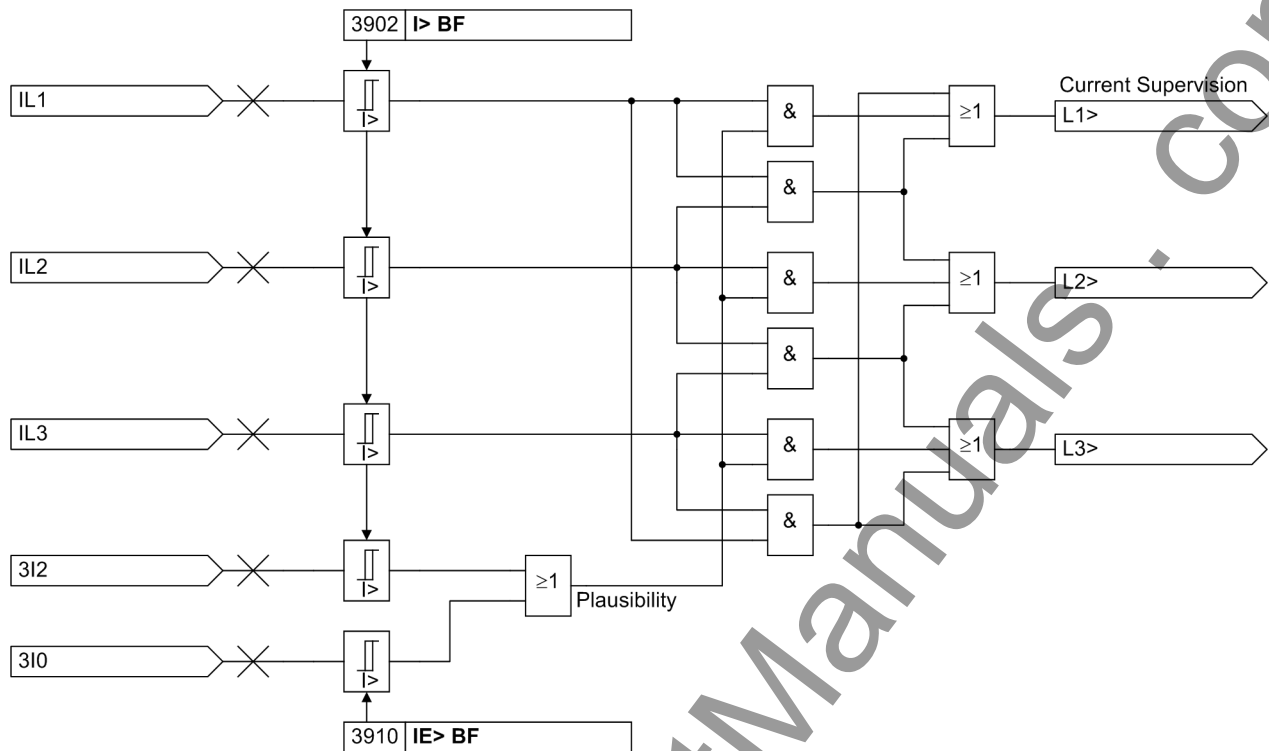
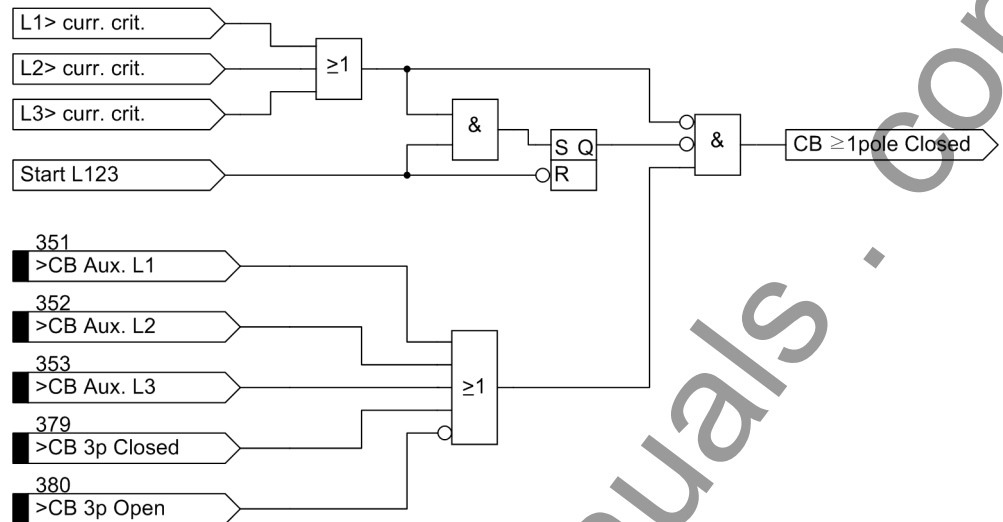
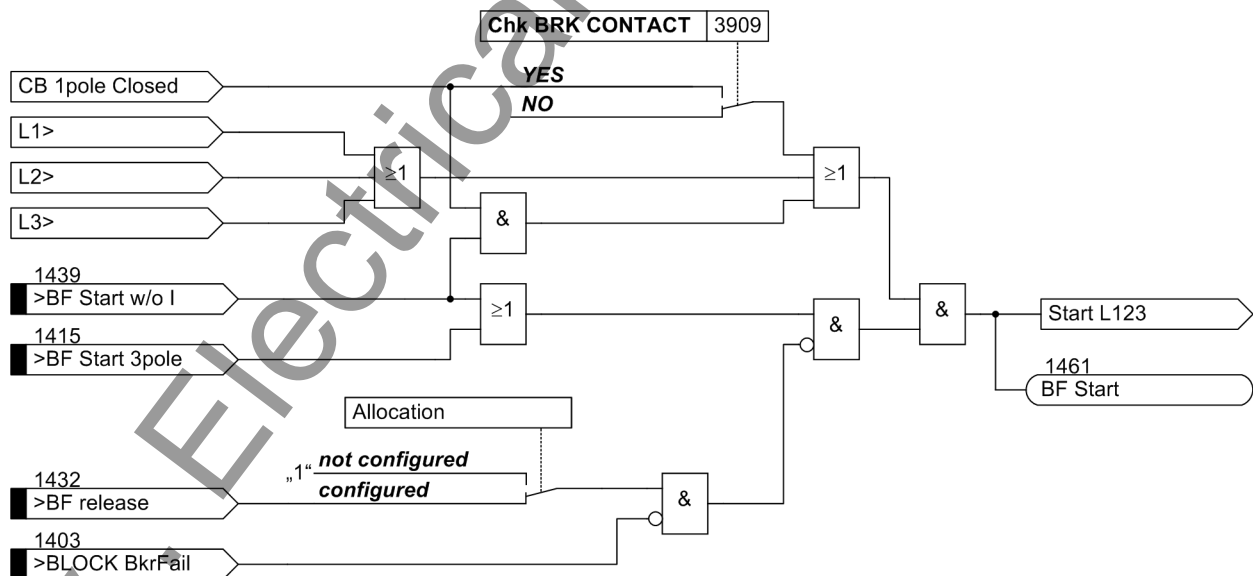
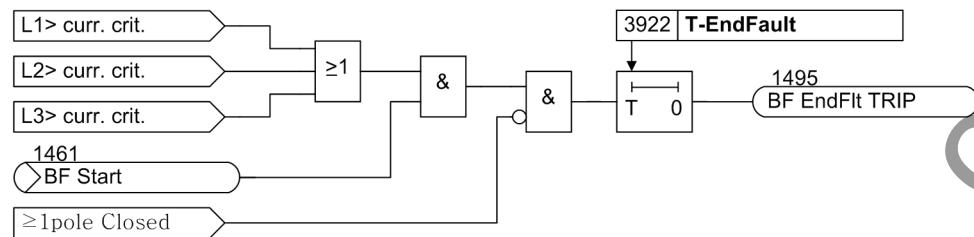

Figure 2-35 Current flow monitoring with plausibility currents $3 \cdot I_0$ and $3 \cdot I_2$
Figure 2-37 Creation of signal "CB ≥ any pole closed"
Figure 2-38 Breaker failure protection with common phase initiation
Figure 2-47 Operation scheme of end fault protection
The currents are monitored and compared with the set threshold. Besides the three phase currents, two further current detectors are provided in order to allow a plausibility check (see Figure 2-35).
It is possible to disable the auxiliary contact criterion. If you set the parameter switch **Chk BRK CONTACT** (Figure 2-38 top) to **NO**, the breaker failure protection can only be started when current flow is detected. The position of the auxiliary contacts is then not evaluated even if the auxiliary contacts are connected to the device.
On the other hand, current flow is not a reliable criterion for proper operation of the circuit breaker for faults which do not cause detectable current flow (e.g. Buchholz protection). Information regarding the position of the circuit breaker auxiliary contacts is required in these cases to check the correct response of the circuit breaker. For this purpose, the binary input „>BF Start w/o I“ No. 1439 is provided (Figure 2-38 left). This input initiates the breaker failure protection even if no current flow is detected.
Figure 2-38 shows the operating principle. When the trip signal appears from a protective function and at least one current flow criterion (according to Figure 2-35) is present, the breaker failure protection is initiated and the corresponding delay time(s) is (are) started.
If the current criterion is not fulfilled for any of the phases, the position of the circuit breaker auxiliary contact(s) is queried provided that this is available according to Figure 2-37. If the circuit breaker poles have individual auxiliary contacts, the series connection of the three normally closed (NC) auxiliary contacts is used. The circuit breaker has operated correctly after a three-pole trip command only when none of the phases carries current or when all three NC auxiliary contacts have closed.
Figure 2-37 illustrates how the internal signal "CB pole „L1 closed“ is created (see Figure 2-38 left) if at least one circuit breaker pole is closed.
The end fault is recognized when the current continues flowing although the circuit breaker auxiliary contacts indicate that the breaker is open. An additional criterion is the presence of any breaker failure protection initiate signal. Figure 2-47 illustrates the functional principle. If the breaker failure protection is initiated and current flow is detected (current criteria „L>“ according to Figure 2-35), but no circuit breaker pole is closed (auxiliary contact criterion „any pole closed“), then the timer **T-EndFault** is started. At the end of this time an intertrip signal is transmitted to the opposite end(s) of the protected object.
Additionally, the current criteria (from Figure 2-35) are processed. Pole discrepancy can only be detected when current is not flowing through all three poles (<3), i.e. through only one or two poles. When current is flowing through all three poles, all three poles must be closed even if the breaker auxiliary contacts indicate a different status.